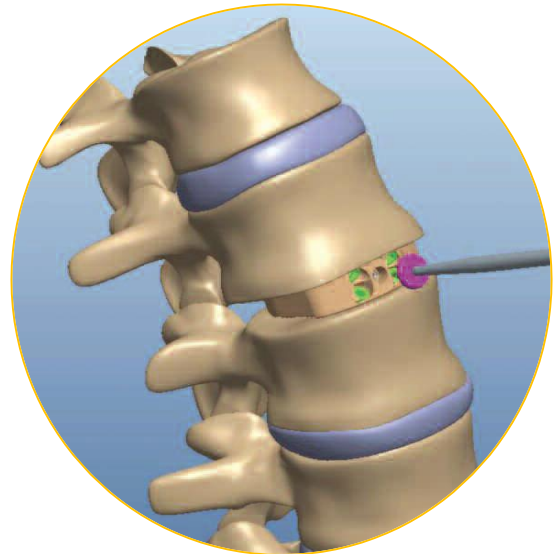

Figure 11: Remove Locking Screw
- B. The Locking Cap (10-1002) is removed by turning counter clockwise with the Straight 2.5mm Hex Driver (10-1014) allowing access to the Bone Screws (Figure 11).